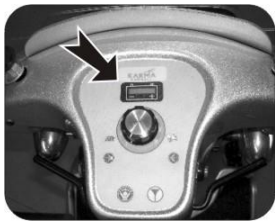

Figure 5.7
5.11.1 When the ignition is turned on, the battery indicator will light up with a possible total of three red, four orange and three green lines indicating the remaining power of the batteries. The positive/plus sign under the green lines indicates that the batteries are fully charged. The negative/minus sign under the red lines indicates that the batteries are (nearly out of or) out of power. (See Figure 5.7 and 5.8)